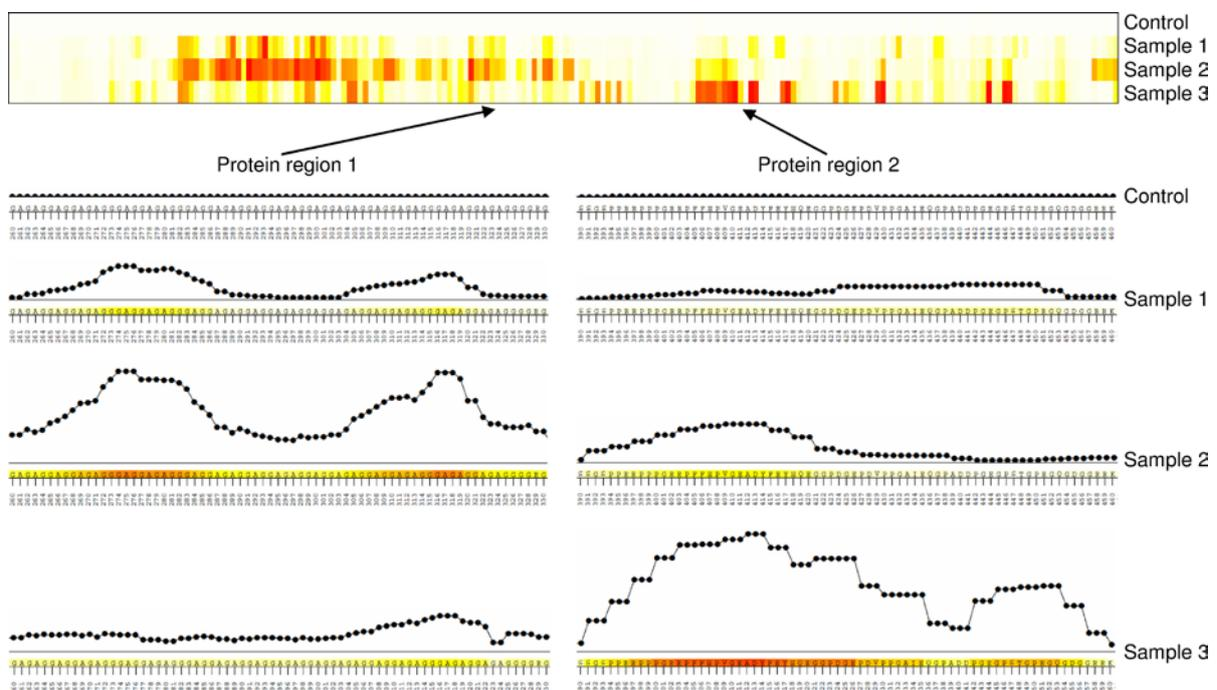

Figure 8: Visualization of microarray incubation experiment.
4. Create heatmap or bar-plot diagram for visualization and identification of major binding sites (examples see Figure 8)